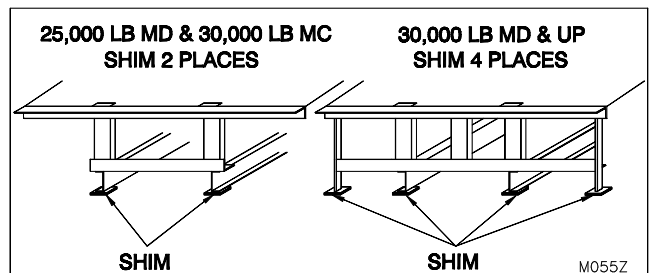

Figure 6: Shim Rear Frame
11. Place shims of minimum length and width of 3" by 4" and a minimum thickness of 14 gauge under rear frame until top rear of dock leveler is flush with rear curb angle. (See Figure 6: Shim Rear Frame on page 6 for shim placement) Tack weld into position.
- Weld the rear shim stacks to the frame of the dock leveler. (See Figure 6: Shim Rear Frame on page 6)